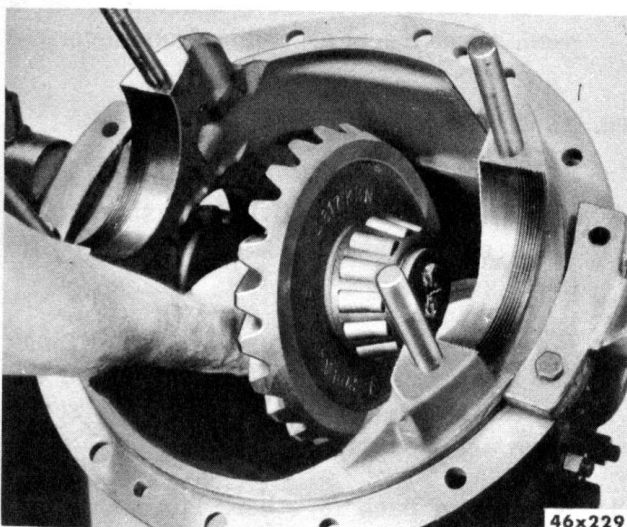

Fig. 119—Removing Cross Shaft Assembly
- (4) Thread out cross shaft assembly (Fig. 119).